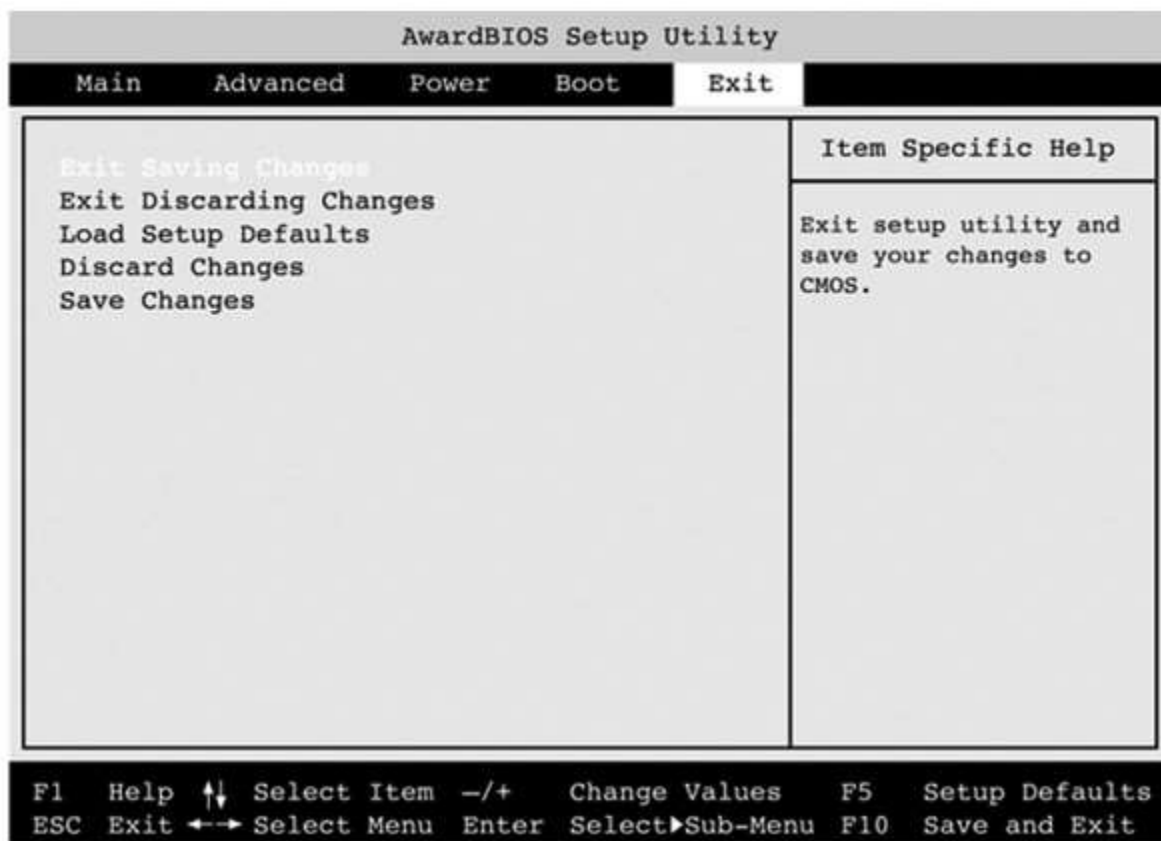

Figure 20
10. Press ESC to Exit menu (See Figure 20).